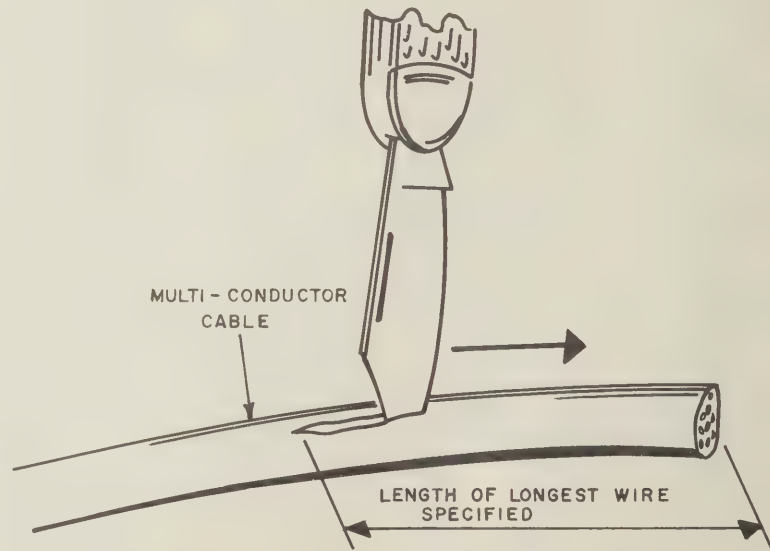

FIGURE 4. CUTTING THE CABLE JACKET
SEE FIGURES 4 and 5
- ☒ Remove $2\frac{1}{2}$ " of the cable jacket from one end and $1\frac{1}{2}$ " from the other as shown in Figure 4. Do not press down too hard with the knife or you may cut through the inner conductors.